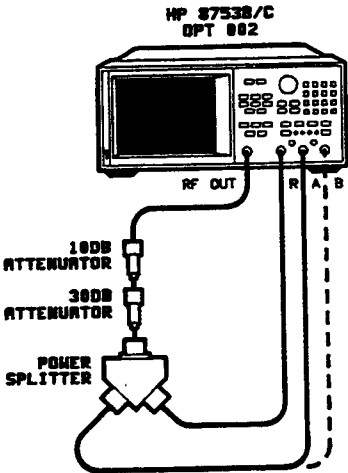

Figure 29. Source Harmonics Test Setup
1. Connect equipment as shown in Figure 29. Allow one hour warm-up. Set the analyzer operating parameters.
6. Remove the 10 dB attenuator from the test setup shown in Figure 29 to measure the combination of source and receiver harmonics.